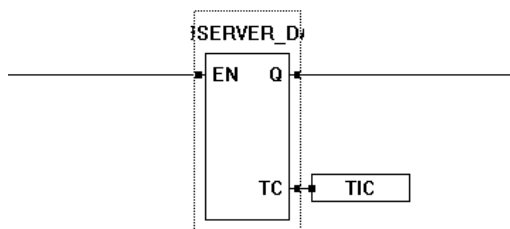

Figure 24-6
5. Click the **OK** button. The Webserver Data Group properties window will close and the block will be placed. See Figure 24-6.